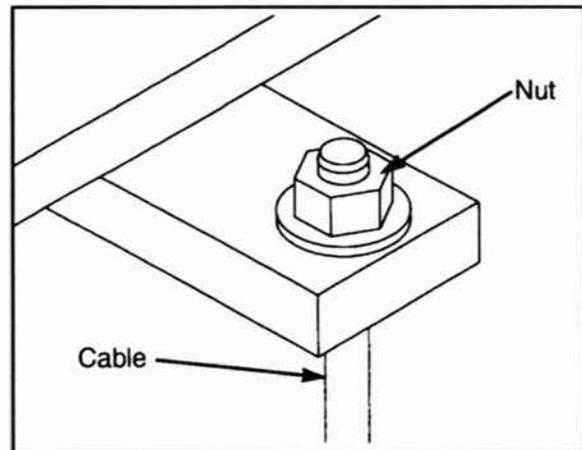

Figure 9
- 4. Nylon Insert Nut Adjustment** - A single nylon insert nut at the cable or frame attachments used for alignment. See Figure 9.
1. Grip lower section of cable fitting with pliers and tighten adjustment nut clockwise with a 7/16" open end wrench. Make small incremental adjustments. See Figure 9.